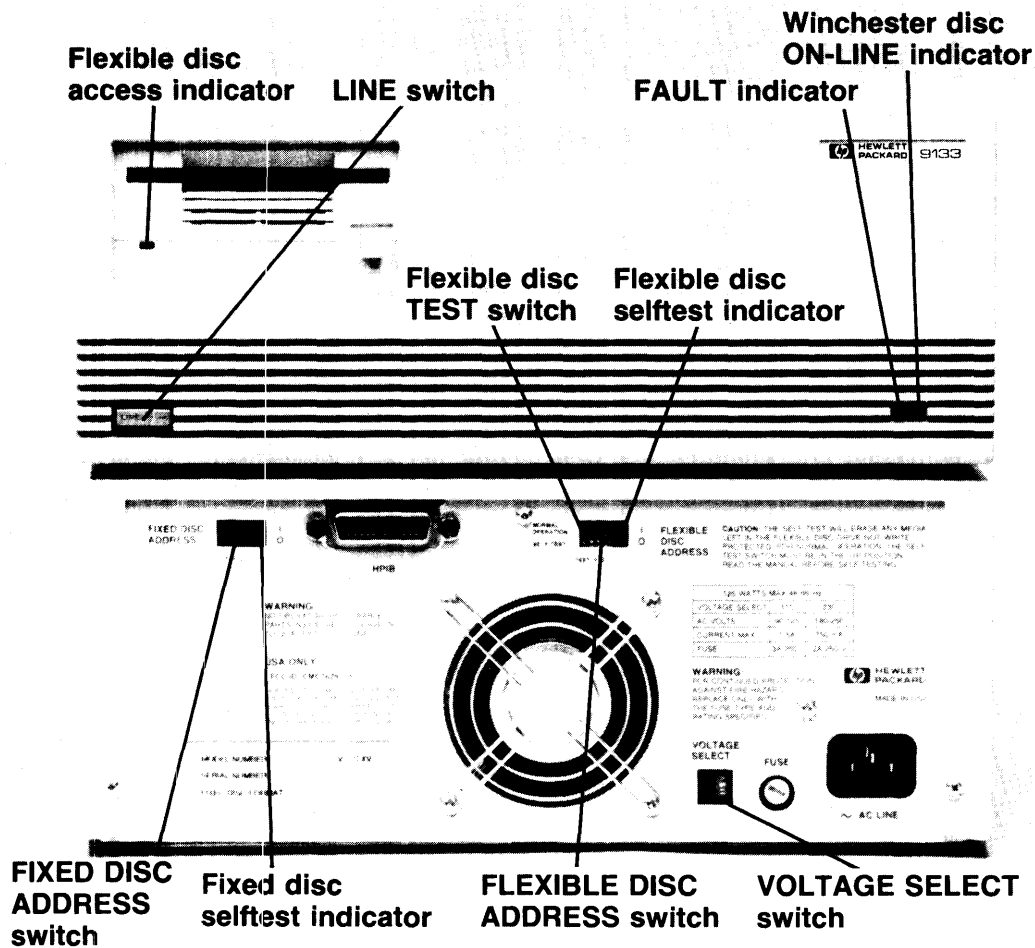

Figure 3-1. 9133V/XV Controls and Indicators
The location of all controls and indicators on the disc memory is shown in Figure 3-1. Front panel controls and indicators are a primary power LINE switch, a FAULT indicator, an ON LINE indicator for the Winchester disc drive, and a disc access indicator for the 3 1/2-inch flexible disc drive. Rear panel controls and indicators are a device address switch for each drive and the VOLTAGE SELECT switch. These were discussed in Chapter 2. Also, within the cutout for each device address switch is a selftest indicator. Adjacent to the FLEXIBLE DISC ADDRESS switch segments is a TEST switch permitting a user to initiate selftests.
3. Move the TEST switch on the rear panel (Figure 3-1) to SELFTEST (down) position for five seconds and then back to the NORMAL OPERATION (up) position. The switch MUST be in the NORMAL OPERATION position before the disc memory is used.